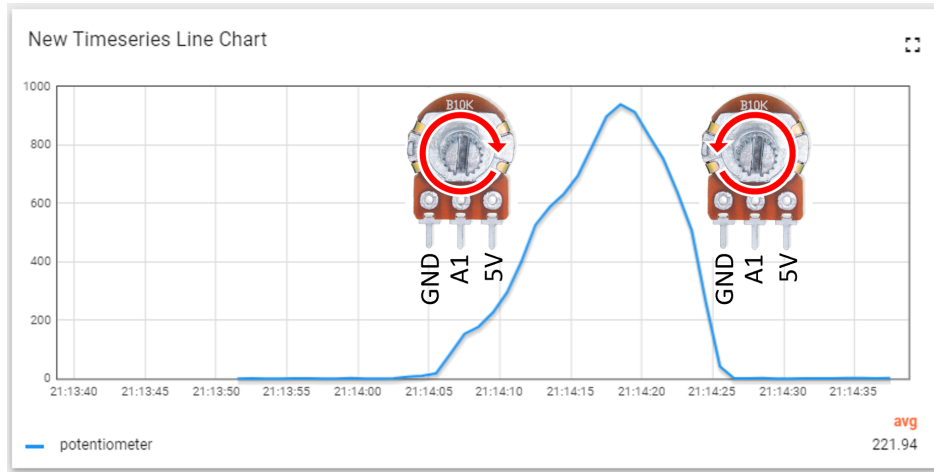

Figure 3: Example chart widget displaying potentiometer data.
10. Use the ThingsBoard WEB UI to create a dashboard and visualize potentiometer data in real time, as described in Section 5.3. Fig. 3 shows an example *Timeseries Line Chart* widget displaying potentiometer data in real time.